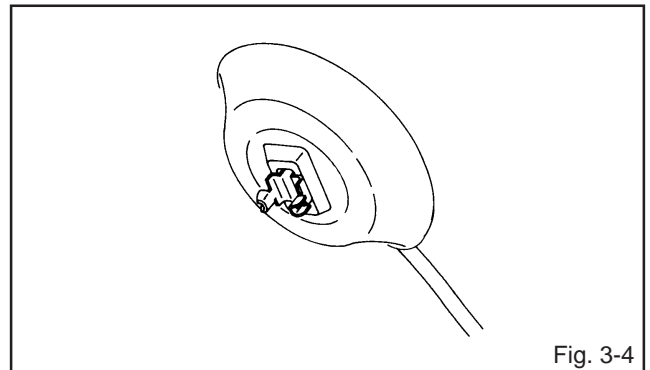

Fig. 3-4
3. Turn over the Rubber Cap. **(Refer to Fig. 3-4.)**